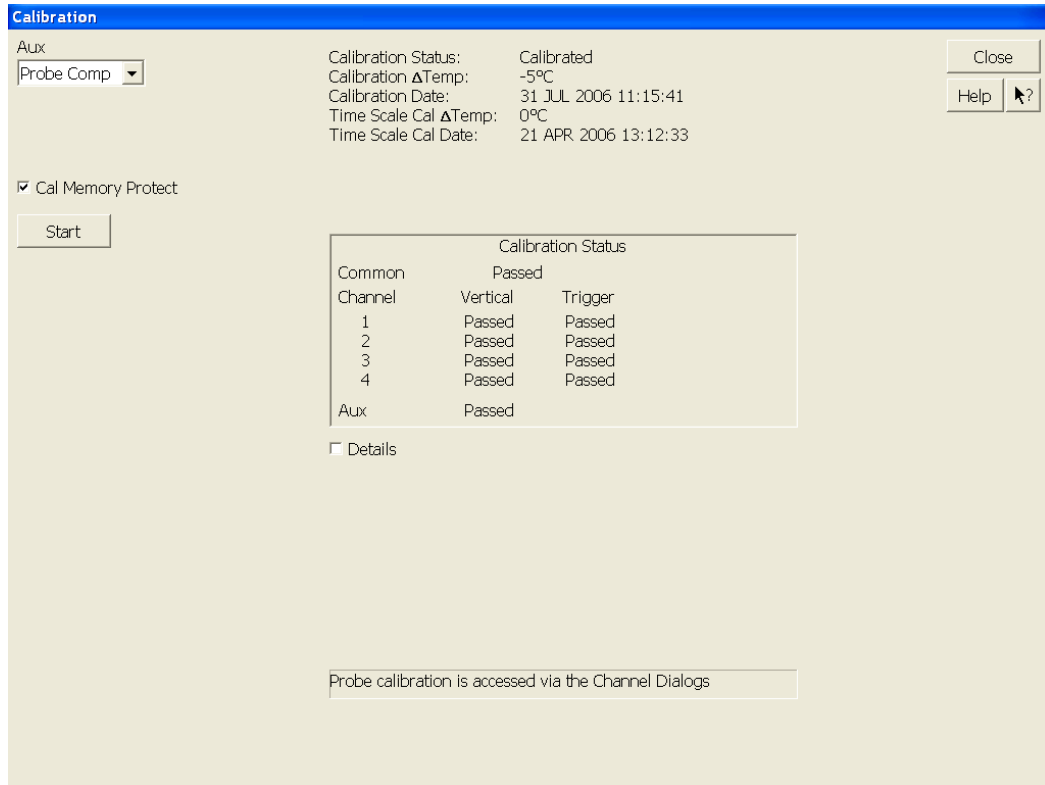

Figure 44 Oscilloscope Calibration Window
- 4 Referring to Figure 44 below, perform the following steps to start the calibration: